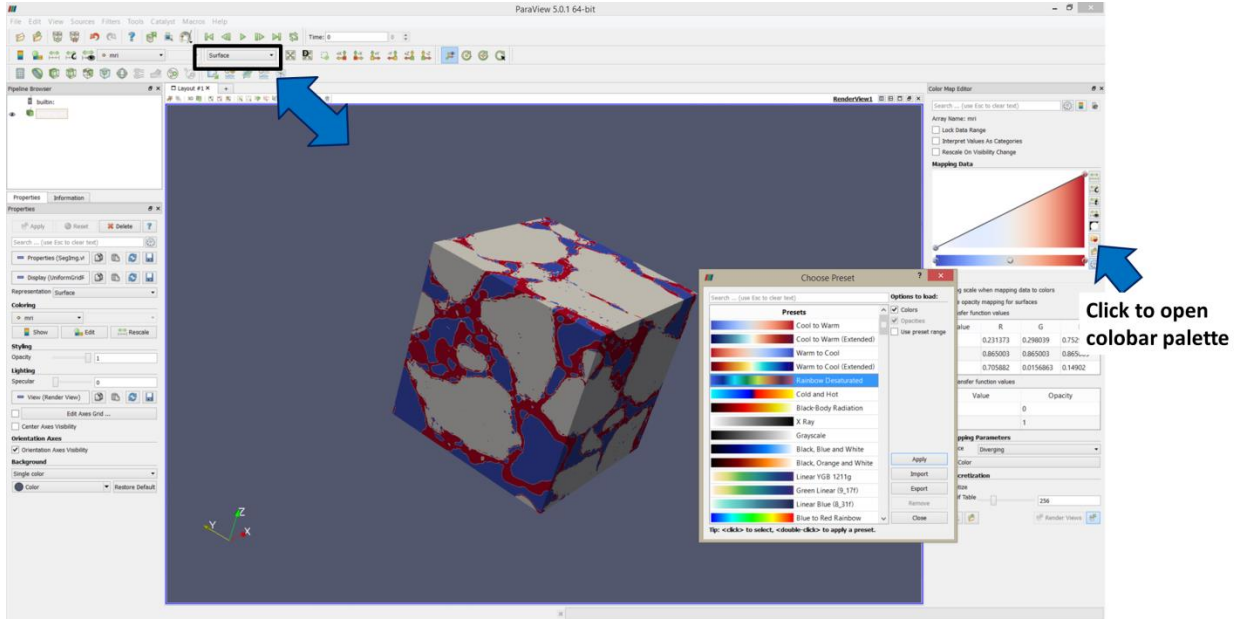

Figure 52: Surface mode in ParaView
- Figure 52: By changing the option from Slice -> Surface, using the drop-down menu highlighted in the black box, the complete stack can be further visualised in surface mode.
- Figure 52: To choose a different colour palette, left click on the icon.